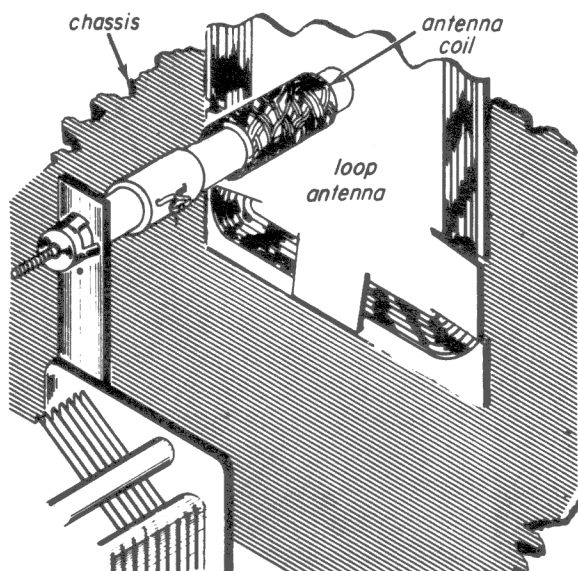

Fig. 36-12
Step 5. Hold the loop antenna near the antenna coil on the chassis, with the loop perpendicular to the antenna coil as shown in Fig. 36-12, and vary the position of the loop for maximum deflection on the meter. (Be careful not to knock off the signal-generator cables while doing this.) The receiver r-f circuit should be tuned to 600 kc from the last experiment.